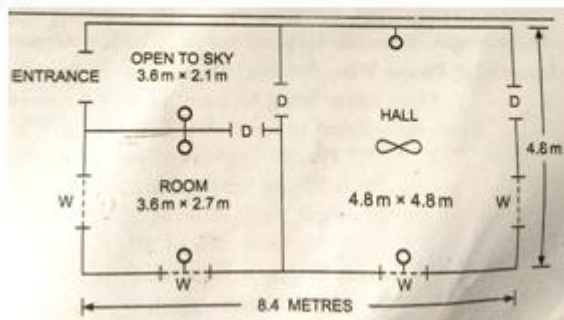

Fig 2.1
- 2 Draw the single line diagram and estimate the quantity of PVC casing capping, conductor used and earth wire in a house, the plan of which is shown in fig 2.1. Assume the height of ceiling as 3.6 meter. Only one plug point is to be provided only in hall. [10]